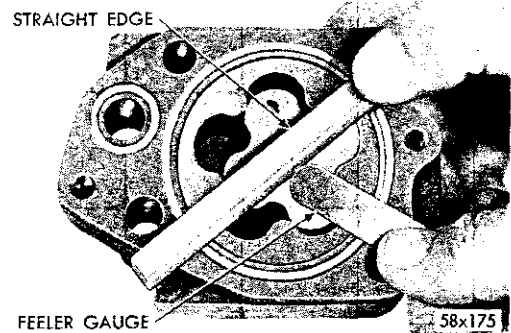

Fig. 6—Measuring the Clearance Over Rotors
(5) Slide the outer rotor and inner rotor into the pump body and place a straightedge across the face (Between the bolt holes), as shown in Figure 6.
(6) If a feeler gauge of more than .004 inch can be inserted between the rotor and the straightedge replace the rotor.
(7) Remove the inner rotor and shaft leaving the outer rotor in the pump cavity.